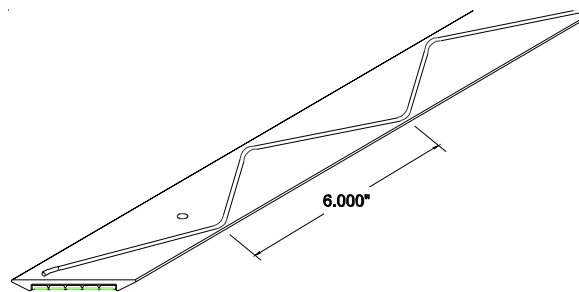

Figure 3
STEP 2. Select a stair demarcation strip, and place the stair demarcation strip into its installed position on the stair tread. Ensure that the nosing is level, plumb, and properly aligned (1/4" from the stair tread edge). Use the stair demarcation strip as a template, mark the locations for the anchors on the stair treads (Figure 3).